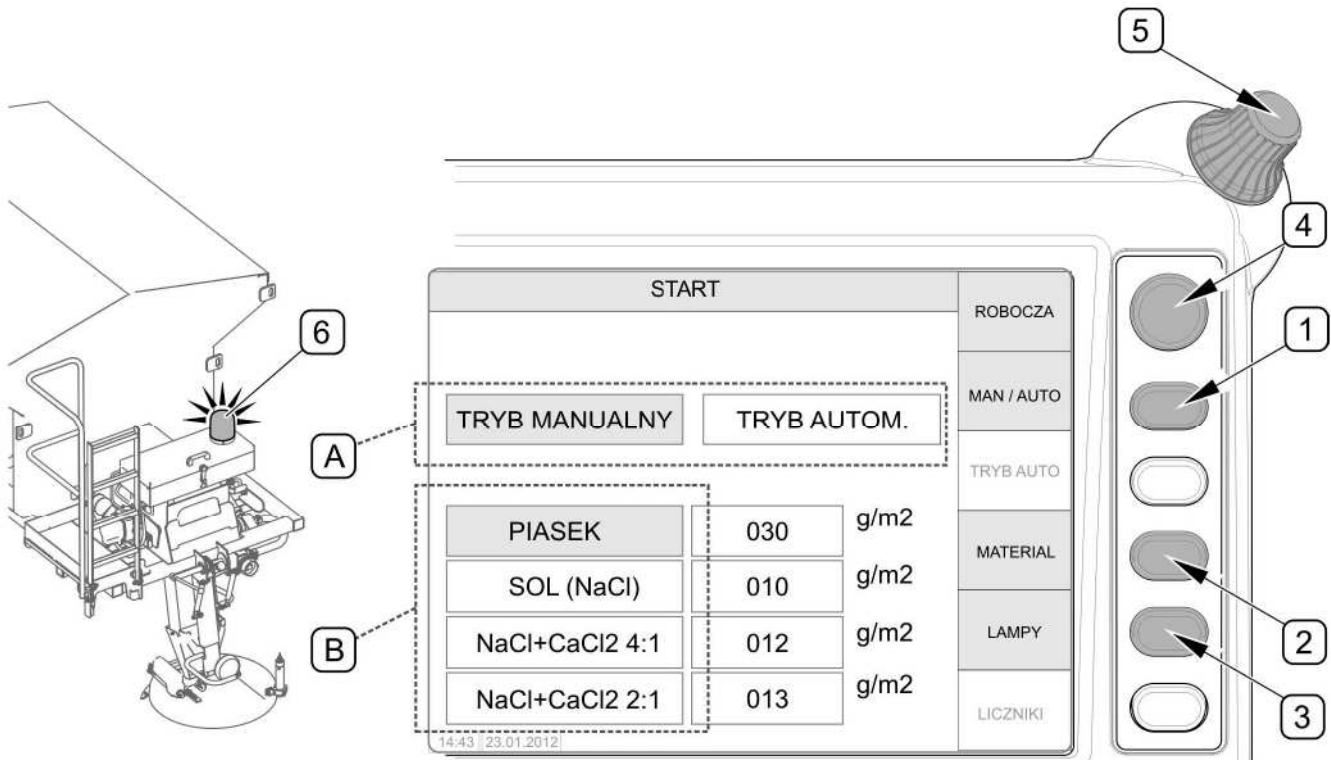

FIG. 4.26 Activating individual functions on control panel home page
On control panel home page („START”) (FIG. 4.26), in field (A), choose manual operation mode by means of push-button (1). Move to field (B) by means of push-button (2) and select the type of material which is in the tank by means of knob (5). By means of push-button (3), turn on warning lamp (6) at the rear of the machine. Move to working page "OPERATION" by means of push-button (4).